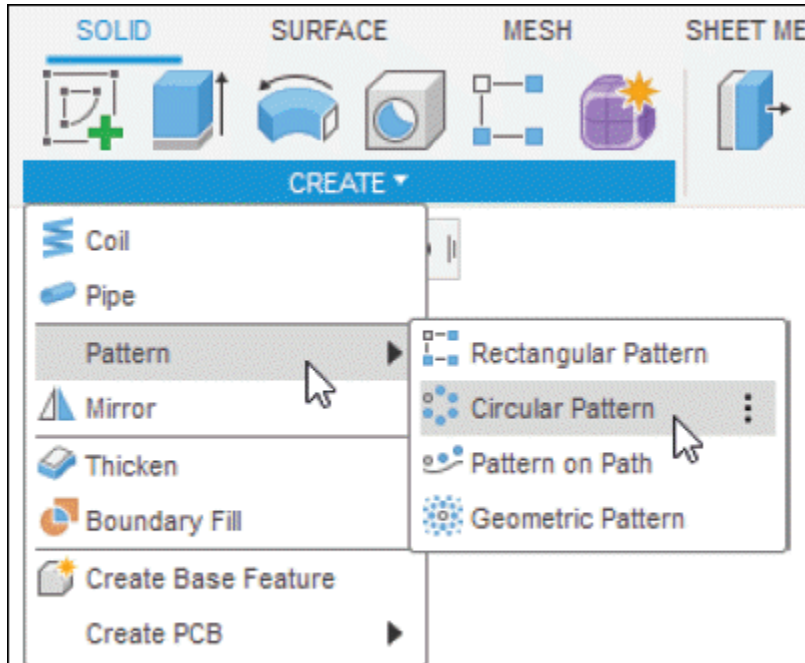
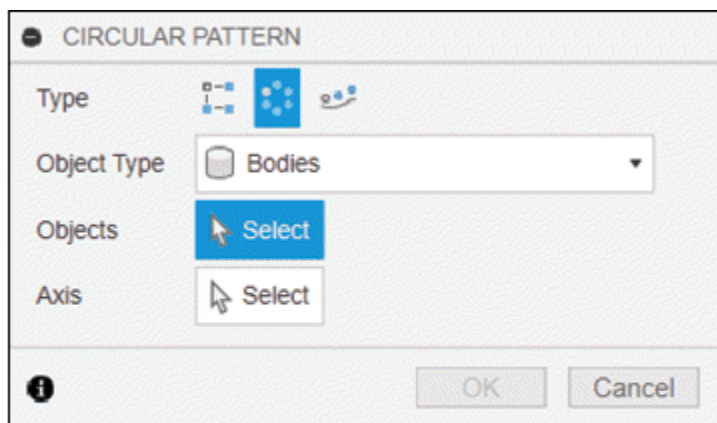

Figure-93. Circular Pattern tool in solid
Figure-94. CIRCULAR PATTERN dialog box in solid
- Click on **Circular Pattern** tool from **Pattern** cascading menu; refer to Figure-93. The **CIRCULAR PATTERN** dialog box will be displayed; refer to Figure-94.